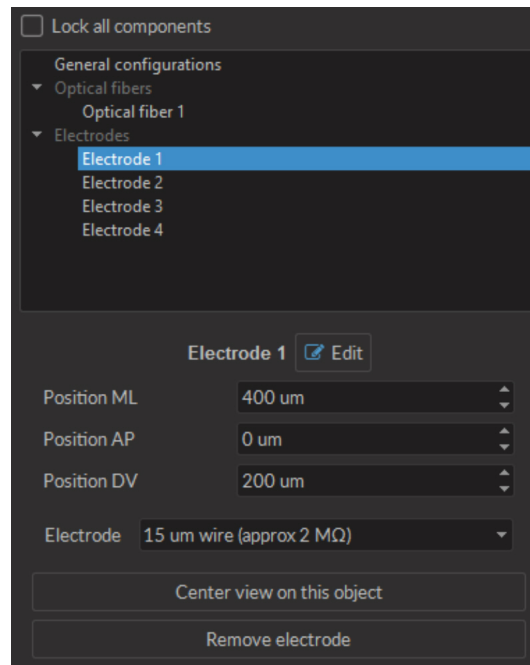

Figure 4.29: Parameter window, Electrode X
5. The **Electrode X** section, (where X is the electrode number; Fig. 4.29) presents all the parameters to define the electrode used. Functions are identical to the similarly named ones from the **Optical fiber X** section, with one addition.